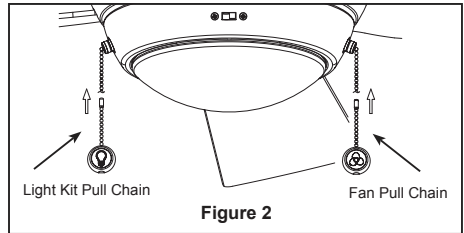

Figure 2
- ☐ 2. Install the fan pull chain and light kit pull chain. (Figure 2)